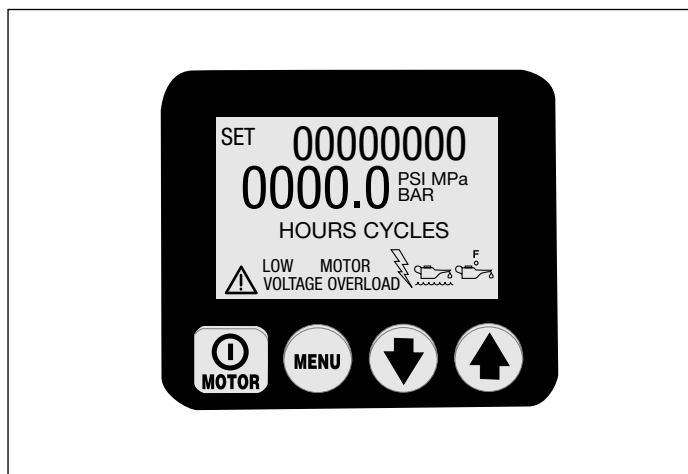

Figure 6
5.1 Pump Shroud Controls & LCD Panel (See Figure 6)